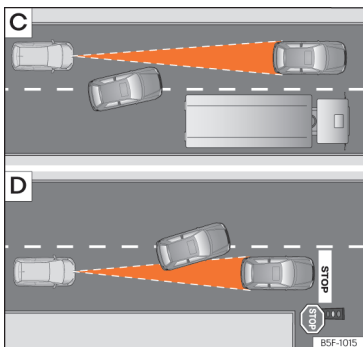

Fig. 135 C Vehicle changing lanes. D One vehicle turning and another stationary.
- Vehicles that move into your lane, a short distance from your vehicle » » **Fig. 135** C.
The ACC may not react to stationary vehicles. If, for example, a vehicle detected by the ACC turns or moves over and there is a stationary vehicle in front of it, the ACC will not react to the second vehicle » » **Fig. 135** D.